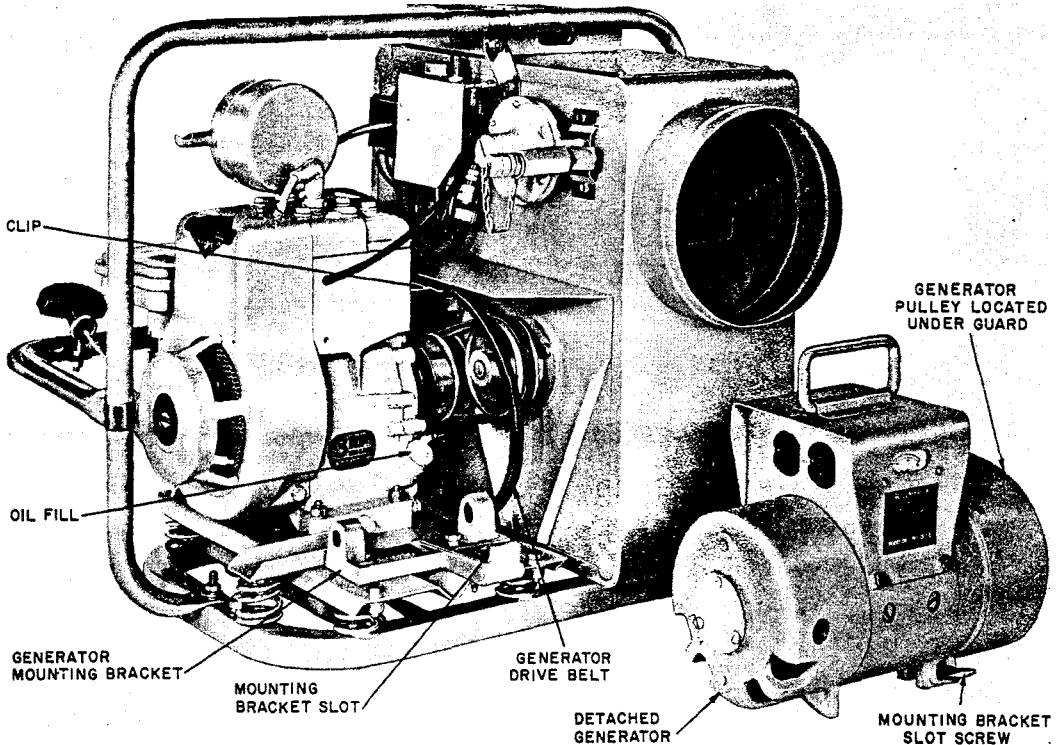

Fig. 6—Generator Detached from PEG-8
(1) Standing at the air outlet side of the generator-heater-ventilator, tilt the top of the generator toward the engine and insert the generator base pins in the two holes on the generator mounting bracket (Fig. 6 and 7).